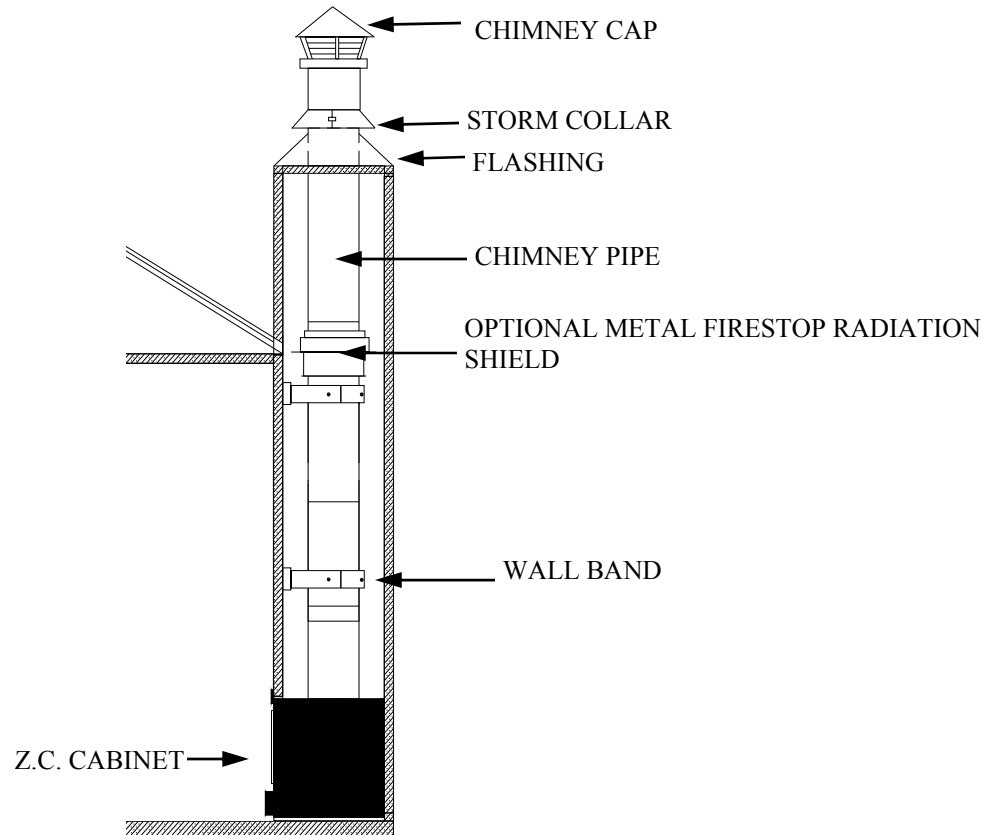

FIGURE 4 EXTERIOR WALL CHASE
- B. Exterior Chase Installation: (See Figure 4). A chase is an enclosure built specifically to house a chimney. The interior of a chase is open from Model 51ZC to the roof, eliminating the need to cut through ceilings and the roof. Normally, a chase is built through the wall, and the Model 51ZC is located in the bottom of the chase, with the front of the unit flush with the interior wall. Chases are commonly veneered on the outside with brick, stone or wood to give the appearance of a conventional fireplace flue. Occasionally, they are built inside and boxed in, similar to a stairwell. When making a chase installation, it is important to read the chimney manufacturer's instructions prior to building, as there are specific requirements for bracing a free standing flue that must be planned for. There are also occasions where offsets are used within a chase to accommodate unusual building designs, or to locate the Model 51ZC further into a room.
- (A) Adjacent side walls must be at least 16" from the outer edge of the Cabinet trim panel.
- (B) The overall opening dimensions must be at least 37 1/2" wide and 34 3/4" high and 24 3/4" in depth.
- (C) 2"x 4" framing above the unit must be turned flat. This allows proper clearance from framing (2" minimum). (See Page 5 Figure 4.)
- b. 2" x 4" framing above the unit must be turned flat. This allows proper clearance from framing to chimney (2" minimum). (See Page 5 Figure 4, and Page 10 Figure 9)